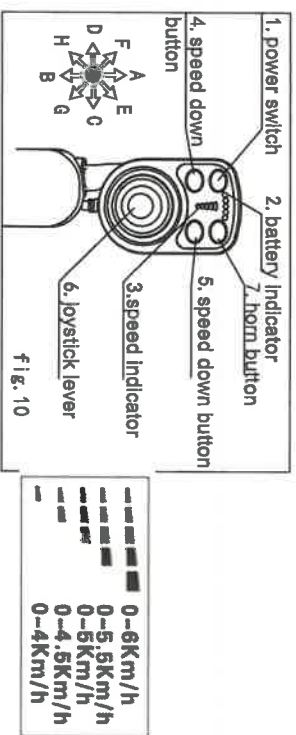

fig. 10
5.1.1 All the electric components to control the wheelchair are integrated to the joystick. Including (1) power switch, (2) battery indicator, (3) speed indicator, (4) speed down button, (5) speed up button, (6) joystick lever, (7) horn button. You can implement all the operations of this wheelchair the above buttons. (Fig.10)
5.1.6 Joystick lever (6): The main function of the joystick is to control the direction and speed of wheelchair. The wheelchair would move forward if the joystick is in position A (Fig 10); move backward move joystick to position B; turn to left or right if turn to C or D in situ; move forward and left or right if push to E or F; move backward and left or right if push to G or H. The further the joystick is pushed from its central position, the faster the wheelchair moves. When it is released, it will automatically reset and brake.